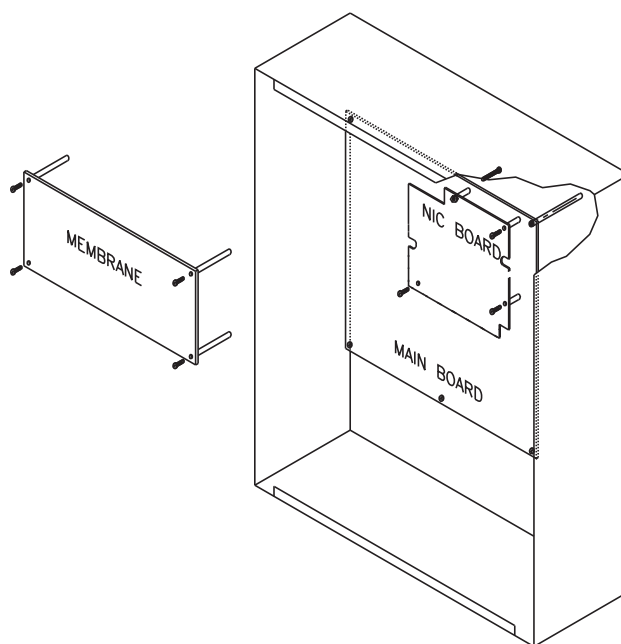

Figure 2-35. NIC Installation
Refer to Figure 2-35 before you install the NIC and perform the following procedure to install the NIC on the ARIES-SLX's printed-circuit board.
3. Remove the NIC from its shipping carton and locate the three plastic standoffs included in the installation kit. Insert these standoffs into the three mounting holes in the PCB as shown in Figure 2-35.